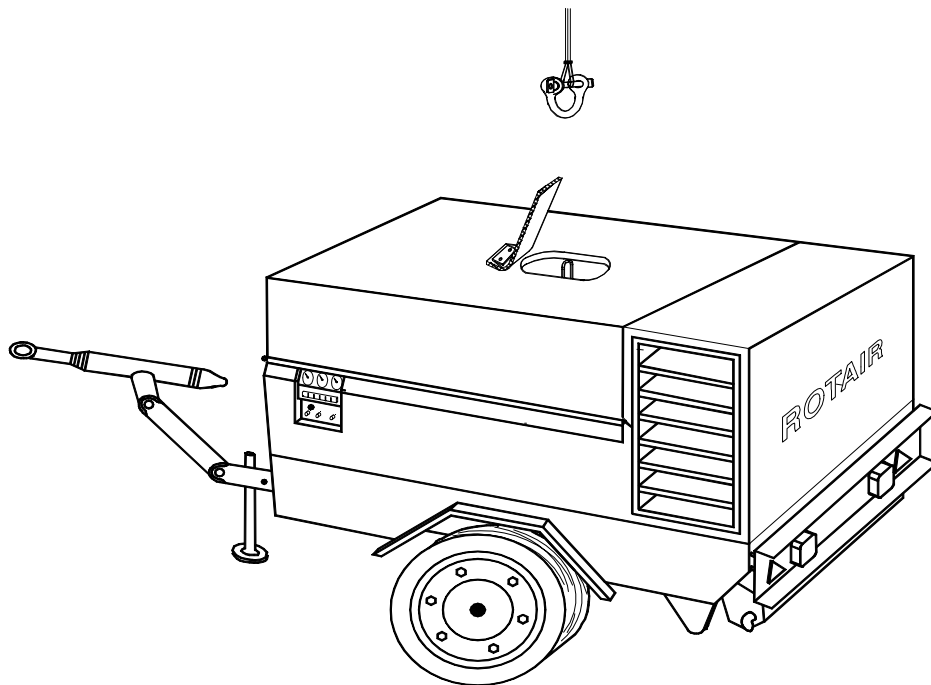

FIG.4
As shown in fig. 4 the lower part of the oil separator tank (Z) acts as an oil tank, will the filtering part is situated at the top which separates the air from the oil.
-- 6.1) LIFTING INSTRUCTIONS (Fig. 4) --
- b) Hitch the clevis and the rope (fig. 4) to the hook of the lifting means.